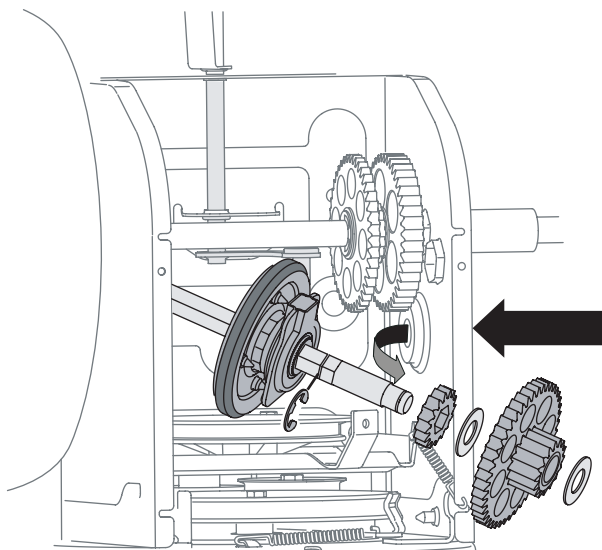

Figure 28
- Slide the hex shaft downward and to the left while carefully un-meshing the lower gears on the hex shaft from the upper gears on the wheel axle. See Figure 28.